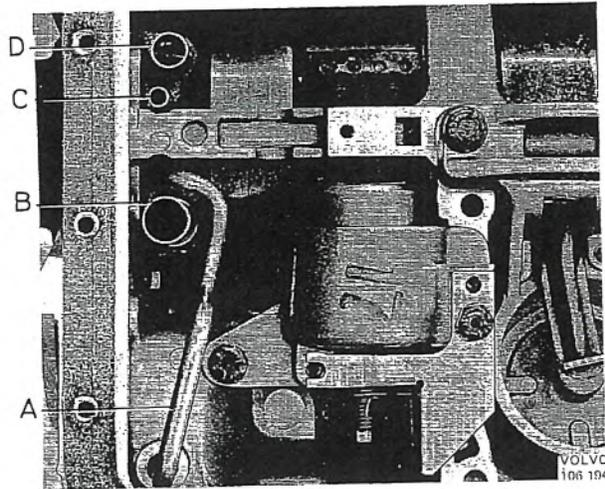

Fig. 4-109. Location of oil tubes, front of gearbox
23. Fit the oil tubes for the pump and converter on the pump, see Fig. 4-109. Do not forget the O-ring for the pump inlet tube.